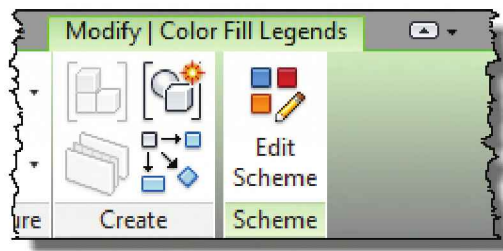

FIGURE 12-3.10 Ribbon;
23. Click **Edit Scheme** on the *Ribbon* (Figure 12-3.10).